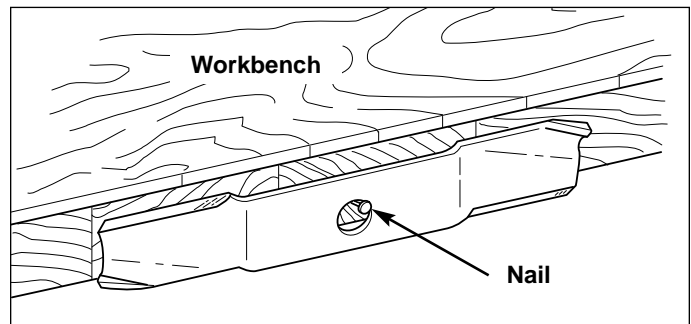

Figure 25. Balancing The Blade
3. **38", 44", & 50" Mowers:** Remove the capscrew (D, Figure 25), spring washer (C), hex washer (B), and blade.
5. Balance the blade as shown in Figure 25. Center the blade's hole on a nail lubricated with a drop of oil. A balanced blade will remain level.